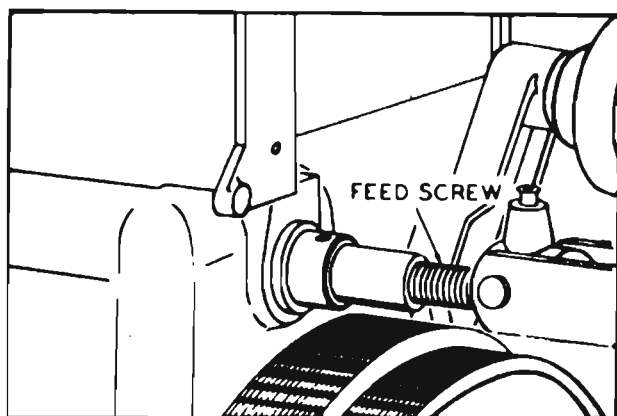

Fig. 98
3. Make sure that Feed Screw (Fig. 98) moves freely in bushings and collar. Apply penetrating oil at front and back of housing and work it in and out a few times to clean out gum or dirt.